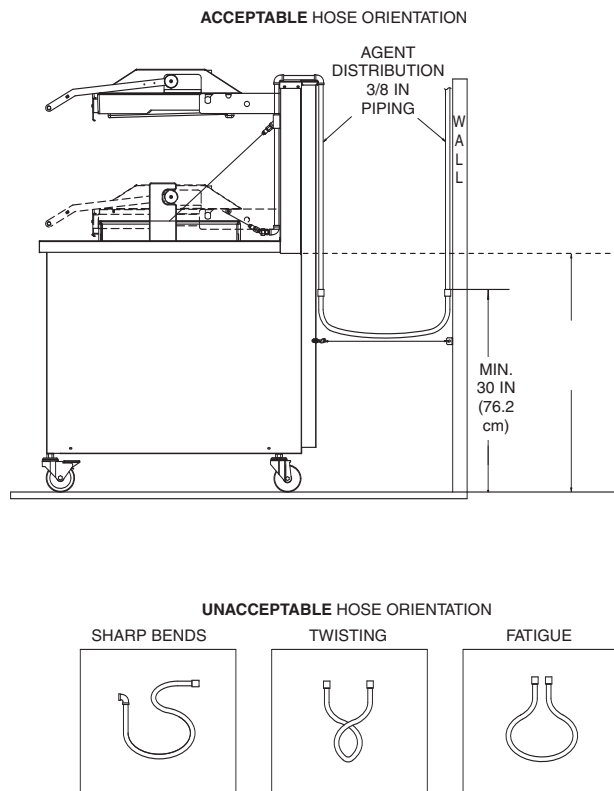

Figure 4-30.
3. 3/8 in. schedule 40 pipe will need to be run from the hose connection to the distribution nozzle(s) installed/affixed to the appliance. Pipe must be installed and adequately secured at a height at or below the cooking surface of the appliance. See **Figure 4-30**.
3. The Agent Distribution Hose should always be in a vertical natural loop, never having any bends greater than a 3 in. (7.6 cm) radius (6 in. (15.2 cm) diameter), hose twists, or sharp bends. See **Figure 4-30**. If any of these conditions exist, the hose and/or hose connections will require installation modifications.
3. Check the hose and hose fittings and verify that the hose remains in a vertical natural loop with no noticeable fatigue at hose end couplings, no hose twists, no hose kinking or sharp bends. See **Figure 4-30**.